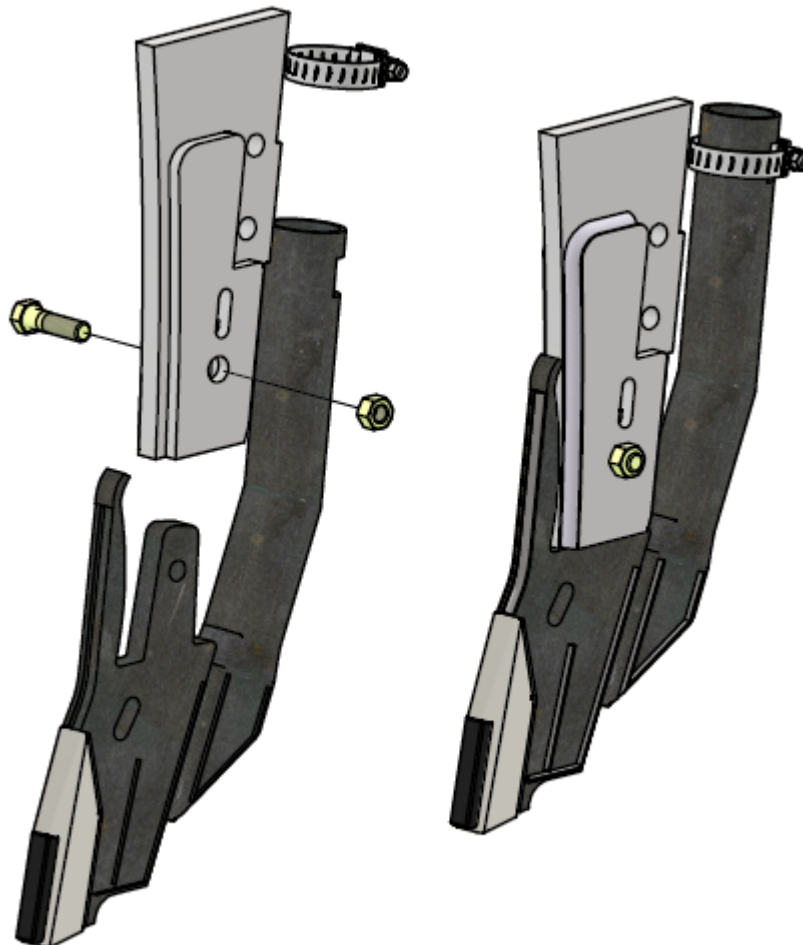

Figure 1: Granular fertilizer knife installation
2. Insert the hex head bolt as shown in Figure 1